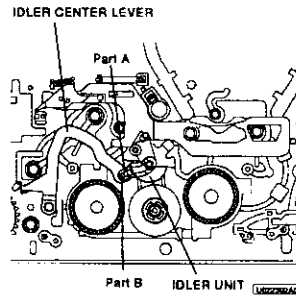

Fig. 2-23-2
- 1 Insert the part A of the IDLER CENTER LEVER shown in Fig. 2-23-2 into the part B of the IDLER UNIT to install the IDLER CENTER LEVER.